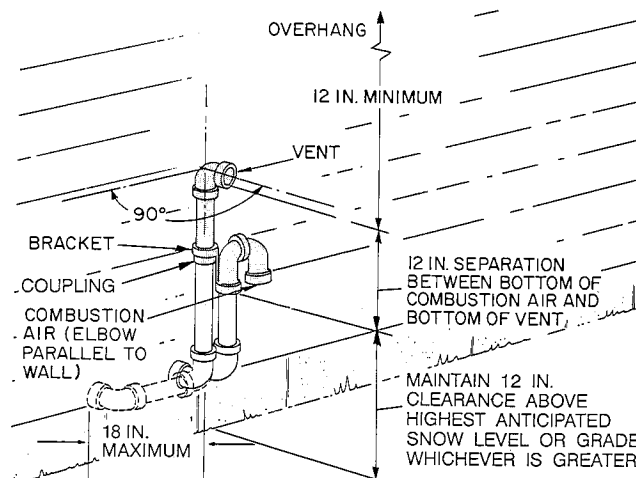

Fig. 4—Sidewall Termination
Install kit as follows when combustion-air and vent pipes exit through sidewall less than 12-in. above highest anticipated snow level or grade. See Fig. 4.
4. Loosely install U-fitting and bracket as shown in Fig. 4. Position U-fitting so that open end is against building wall.
5. Loosely install vent-pipe assembly in coupling as shown in Fig. 4.
6. Check required dimensions as shown in Fig. 4.
8. Install bracket as shown in Fig. 4.